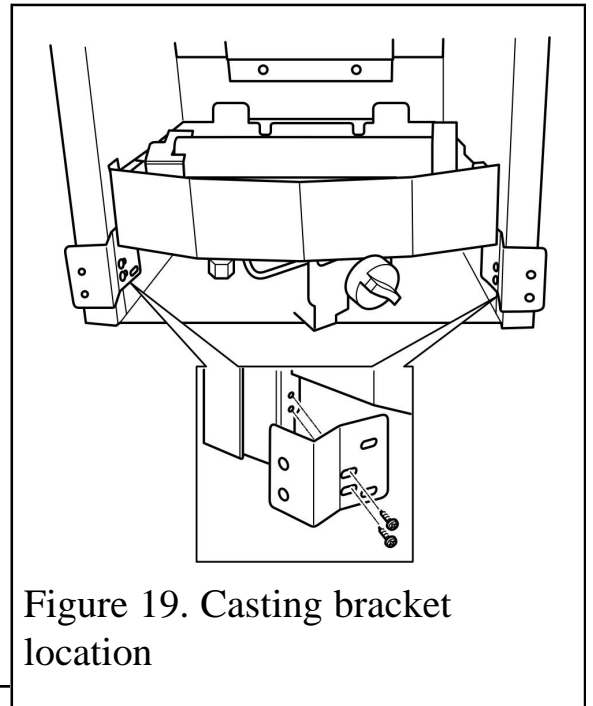

Figure 19. Casting bracket location
1. There are two sets of brackets supplied with the 'Style' firefront casting. The brackets required are shown in figure 19. Locate these to the bottom sides of the convector box using the four self tapping screws supplied, but do not tighten the screws (See figure 19). Discard the remaining set of brackets.